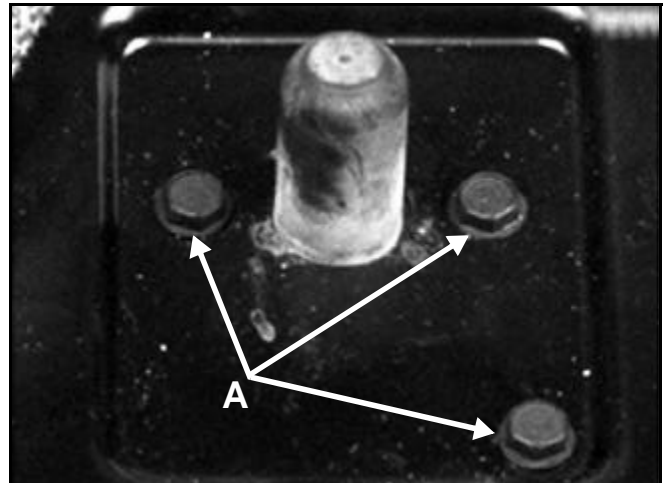

Figure 147 1854-37-2
10. Remove the three screws for the starter switch box (Figure 147).